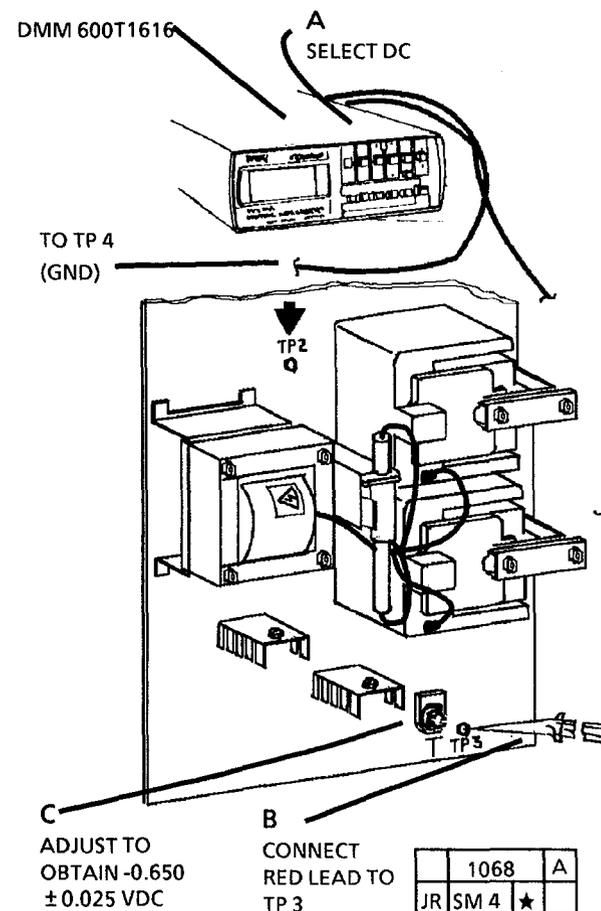

Figure 5. Adjustment of Transfer Corotrons (Continued)
12. (FIGURE 5): ADJUST TRANSFER COROTRON VOLTAGE.